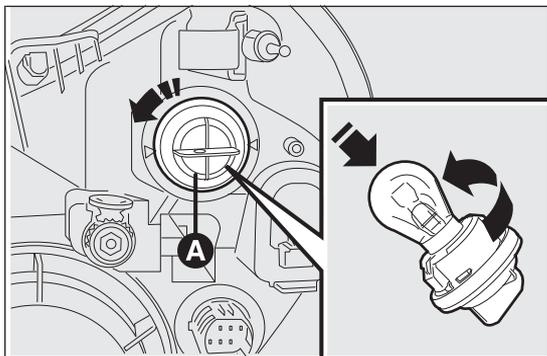

fig. 194
- turn bulb holder A fig. 194 anticlockwise and remove it;